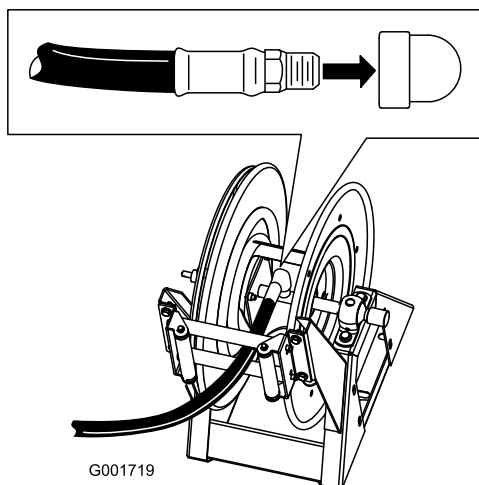

Figure 18
1. Wrap Teflon tape around the threads of the hose fitting on the long hose and install the fitting into the connecting tube on the reel (Figure 18).